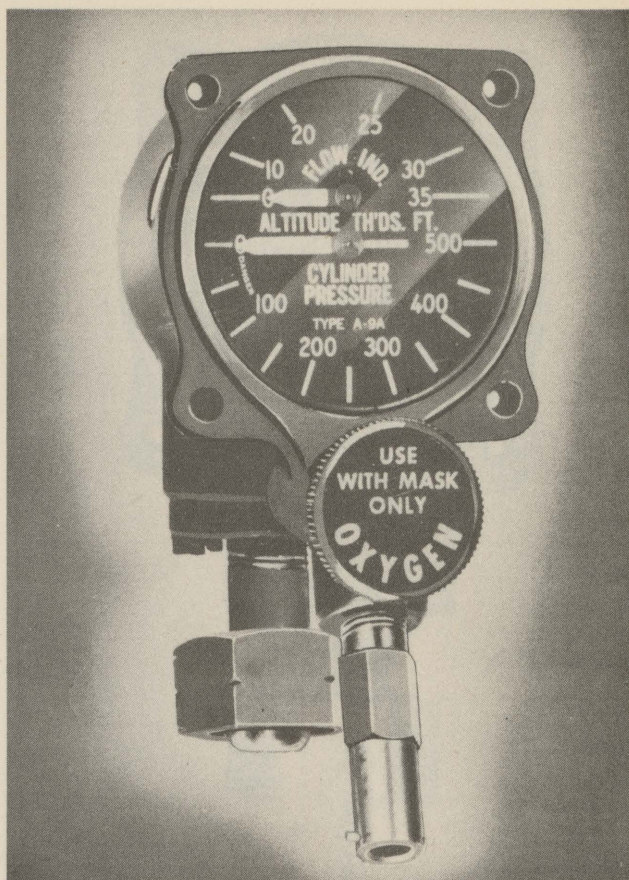

Figure 18—A-9A Regulator
2. The type A-9A regulator (see figure 18) is an improved A-9 which has been reworked to increase the flow of oxygen at 30,000 feet but not at 10,000 feet.